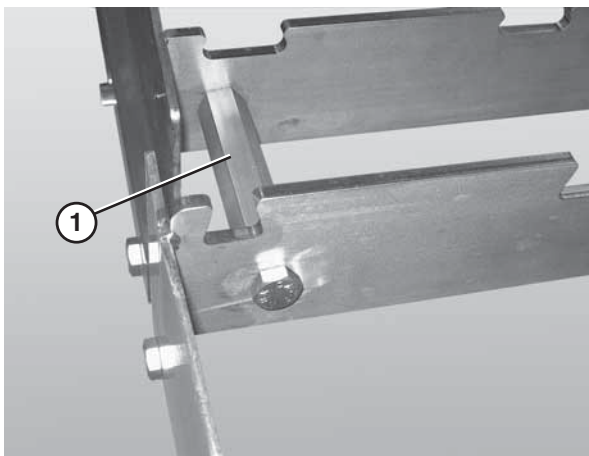

Figure 41
3. Connect the frame sections by bolting the hex post connectors (**Figure 41, item 1**) the sections of frame.